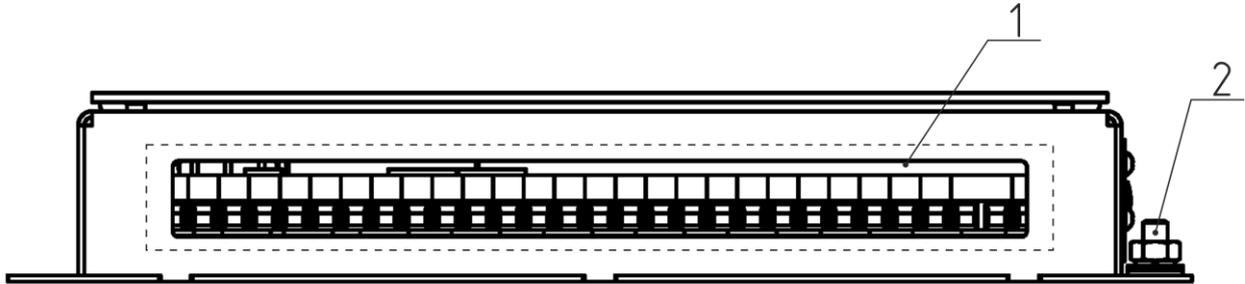

Figure 1 – The Product’s appearance
1.3.1 The Product is manufactured in metal casing where a grounding stud and connection ports are located, see Figure 1.
Note – Positions (№) are shown in Figure 1.